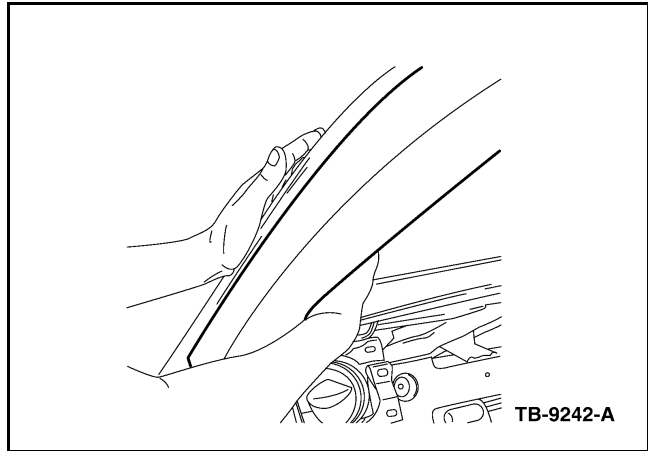

Figure 7 - Article 08-24-10
5. Install A-pillar. Press to securely mate dual lock fastener. (Figure 7)